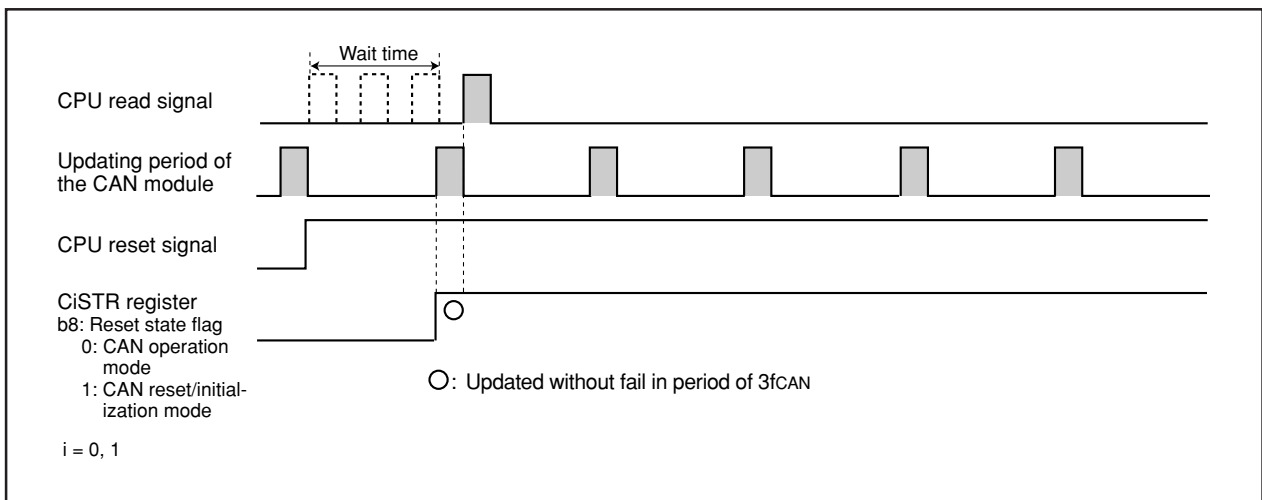

Figure 1.11.2 With a Wait Time of 3fCAN Before CPU Read
- (1) There should be a wait time of  $3f_{CAN}$  or longer (refer to Table 1.11.1) before the CPU reads the CiSTR register. (Refer to Figure 1.11.2.)